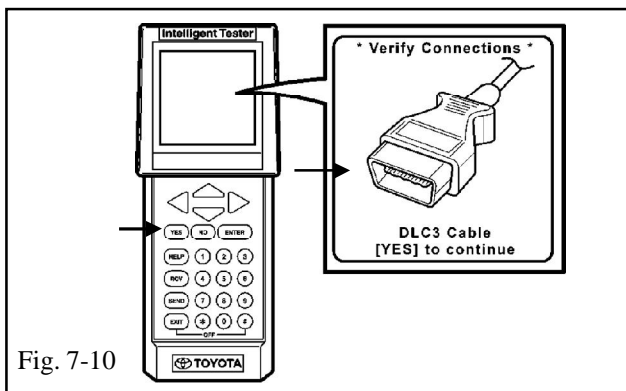

Fig. 7-10
- (l) Verify the connection of the DLC3 Cable. Press "YES" to continue. (Fig. 7-10)